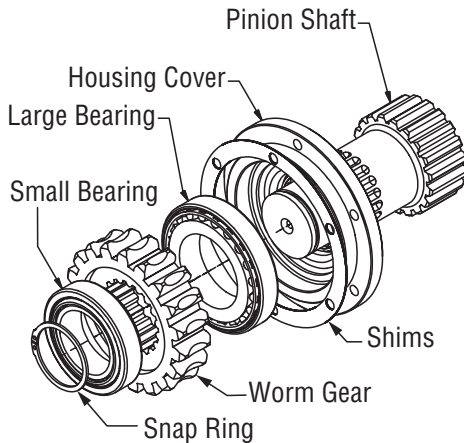

Figure 5-15, Pinion Shaft
4. Remove the capscrews from the housing cover. The housing cover capscrews are installed with Loctite, so use a long handle wrench to break them loose. Using a large screwdriver and hammer, separate the housing cover from the housing. (Figure 5-15)
5. Remove the pinion shaft assembly. (Figure 5-15)
6. Remove the snap ring from the end of the pinion shaft. (Figure 5-15)
7. Place the assembly in a press supporting the housing cover, **not the pinion shaft**. Press the pinion shaft through the small bearing and the worm gear. At this point the small bearing, worm gear and large bearing are loose and can be lifted out of the housing. (Figure 5-15)